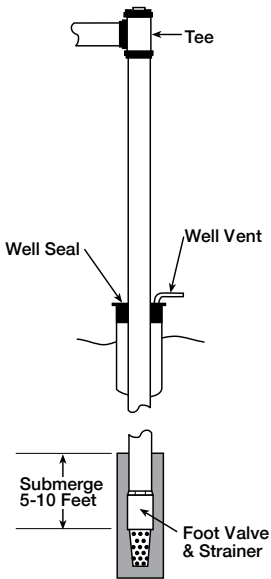
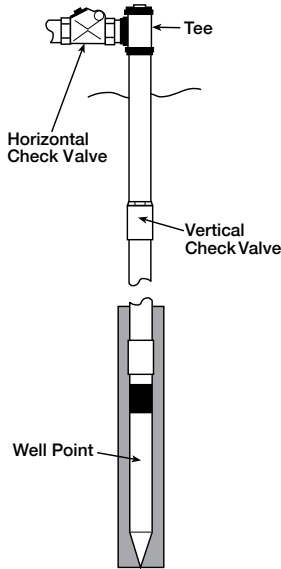

Figure 1
Figure 2
Drilled, bored, or dug wells may employ an arrangement as in Figure 1. Driven wells and sand points employ the configuration in Figure 2.
1. a) Install a foot valve on the bottom of the suction line and place it 5 to 10 feet below the drawdown level, that is, the level of the water when the unit is pumping at its rated capacity. It should be far enough from the bottom of the well to avoid pumping sand and mud (Figure 1).
b) On a driven well installation, install a check valve on the vertical pipe at least five feet above the well point, or install a horizontal check valve in the suction line near the pump (Figure 2).
4. Install the well seal at the top of the well casing and tighten the well seal bolts. (Figure 1).